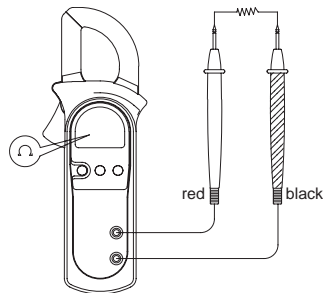

figure 5
3. Center the conductor within the transformer jaw like figure 5.
C. Measuring Resistance (see figure 5)